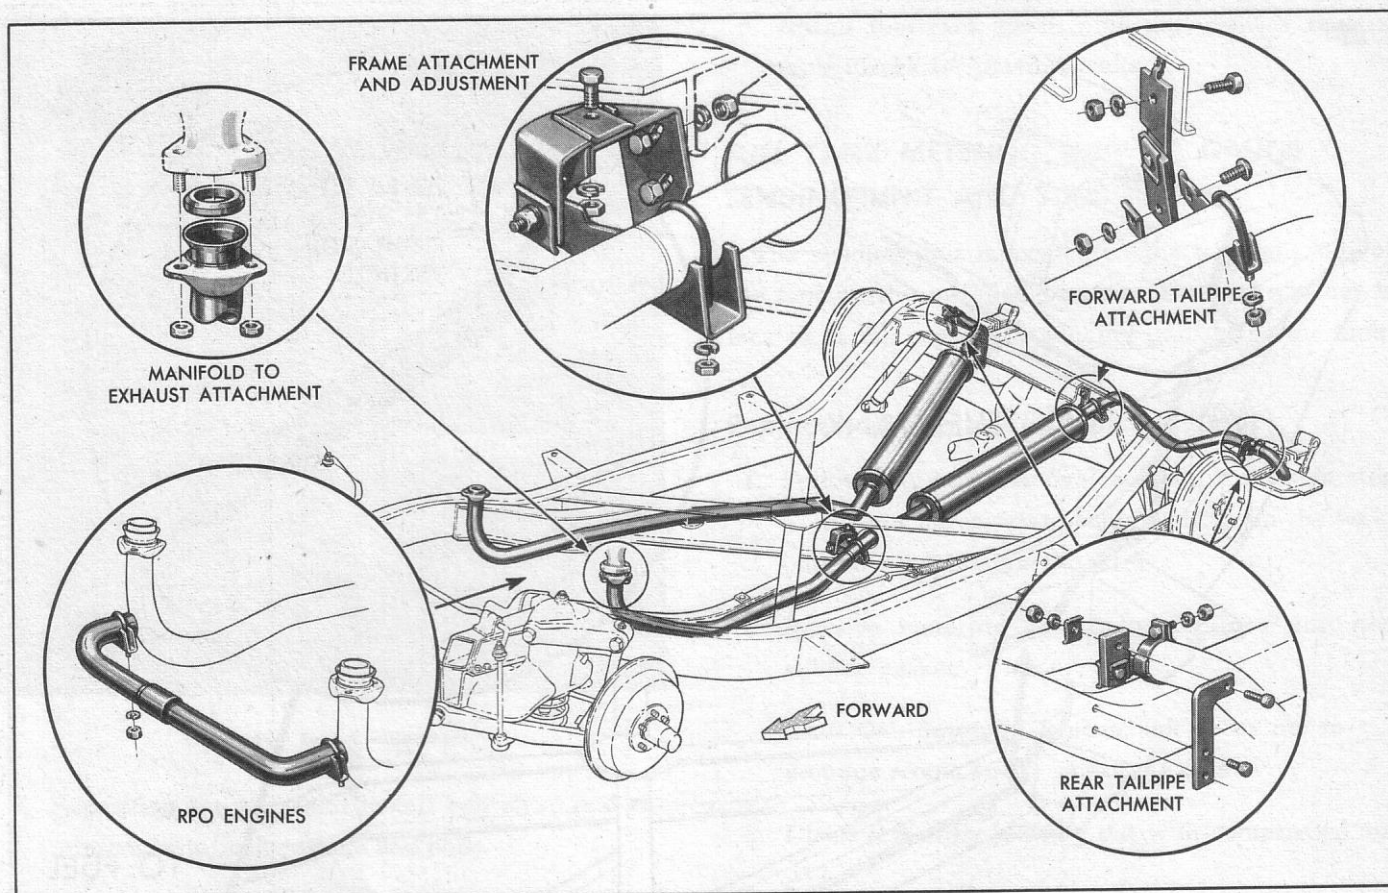

Fig. 11—Corvette Exhaust System
All Corvettes are equipped with dual exhaust systems. Each exhaust assembly is connected to its own exhaust manifold and carries the exhaust gases to the rear, discharging them on each side of the rear bumper. These two assemblies are joined together with a cross-over or balance tube when used with either of the two higher compression V-8 RPO engines. See Figure 11.
1. Remove "U" clamp at X crossmember (see Figure 11).
4. Replace with a new muffler and/or tail pipe and exhaust pipe extension as required. Detach exhaust pipe if to be replaced (see Figure 11).